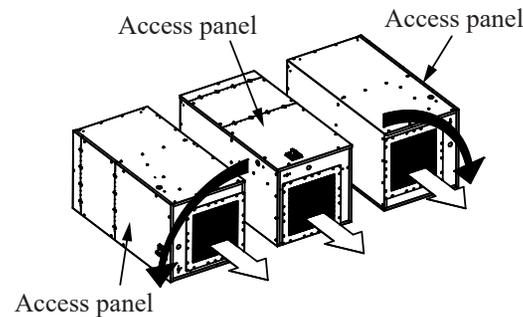

Figure 3
- 4- Install the unit on adequate supports under the unit (non supplied), adapted to the load (at least 400 lb) and with a minimum width of 1 1/4 in. (32 mm) (Figure 3).
- 5- Pay attention to the outlet air direction (Figure 3).
- 7- Make sure to install supports to keep access to internal components for servicing and keep a minimum distance of 12 in. (305 mm) between the acces panel and supports. Take care to position the supports to keep access to the opening of the filter access panel (Figure 3).
- 3- Install the unit on adequate supports under the unit (non supplied), adapted to the load (at least 400 lb) and with a minimum width of 1 1/4 in. (32 mm) (Figure 3).
- 5- Make sure to install supports to keep access to internal components for servicing and keep a minimum distance of 12 in. (305 mm) between the access panel and supports. Take care to position the supports to keep access to the opening of the filter access panel (Figure 3).
- Make sure that the fan rotates in the correct direction; airflow should be in the direction of the arrow such as indicated (Figure 3).